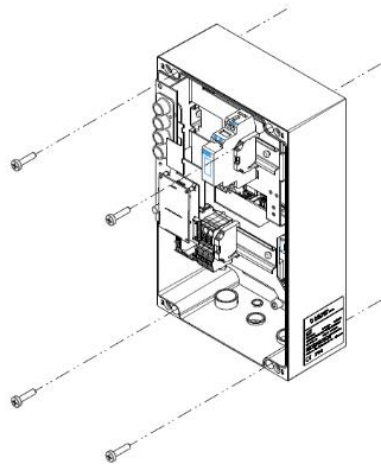

Figure 1
5. Install the ICU Compact by using screws (4 x M5 x 30 mm) in de drilled holes (fig. 1). The distances between the holes amount to 144 mm (horizontally) and 312 mm (vertically).